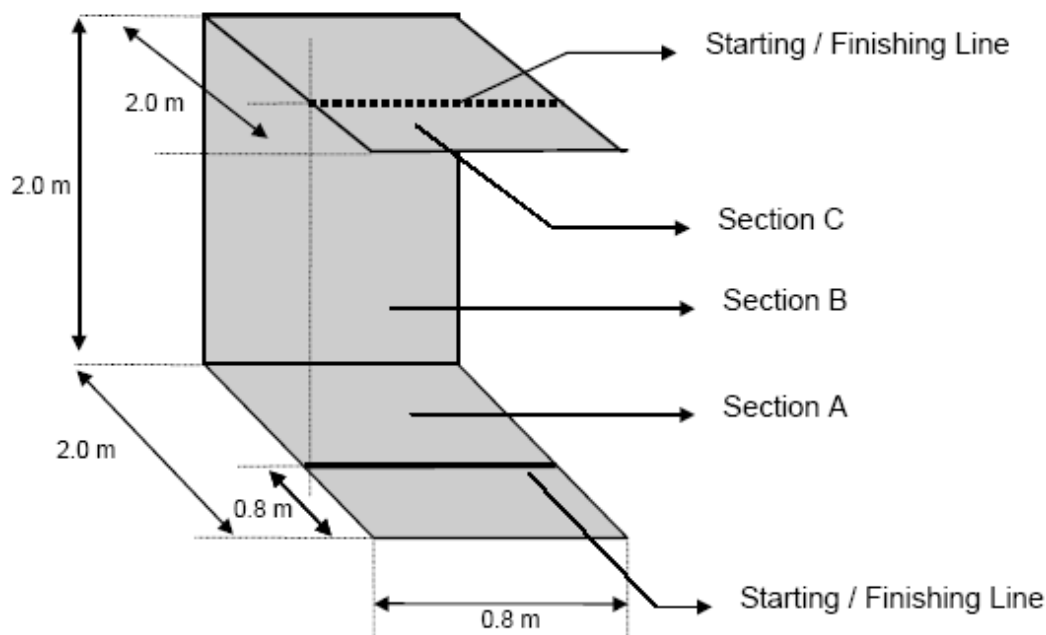

Figure 1: The wall for the wall-climbing robot race
2.1 The wall is shown in Figure 1. It consists of three sections: a two metres long horizontal section (section A) on the ground followed by a two metres high vertical section (section B) followed by a two metres long horizontal section (section C) at the top, with each section at least 0.8 metre wide. The following tolerance shall apply:
The wall will be deemed to have satisfied criteria (a) and (b) above and be considered fit for use if each of the two distances between diagonally opposite corners (using the side view in Figure 1) lies in the range 2733 mm to 2847 mm.
- 2.4 The supporting structure for the wall will have provision for two safety cables to be attached to the robot so that both cables can be used simultaneously during the race (not shown in Figure 1.)